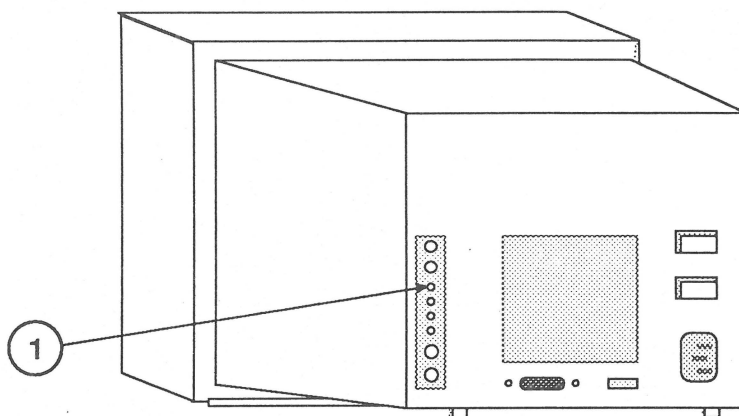

FIGURE 3
2. Using the insulated screwdriver, turn the HORIZONTAL SIZE control (Figure 3, #1) until the raster is 235 mm wide.